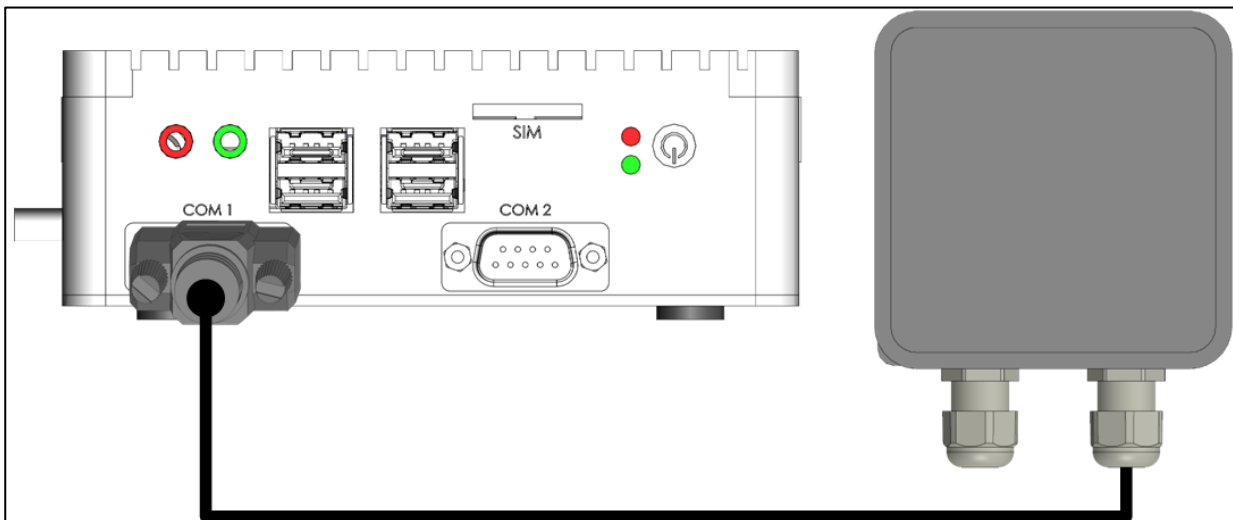

Figure 14: Junction Box to COM Port Cable
- Plug the cable into the COM 1 port (Figure 14).